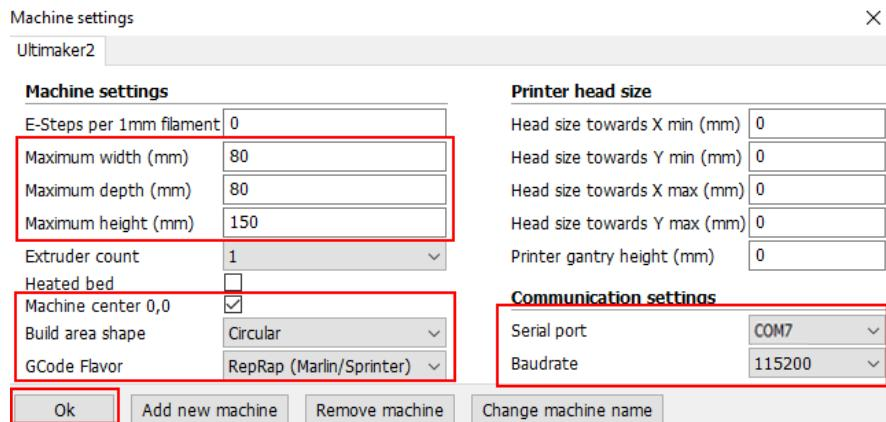

Figure 5.105 Parameters setting
2. Set the corresponding parameters on the Machine settings and click OK, as shown in Figure 5.105. Table 5.4 lists the values of the parameters that need to be set. The other parameters are set by default.